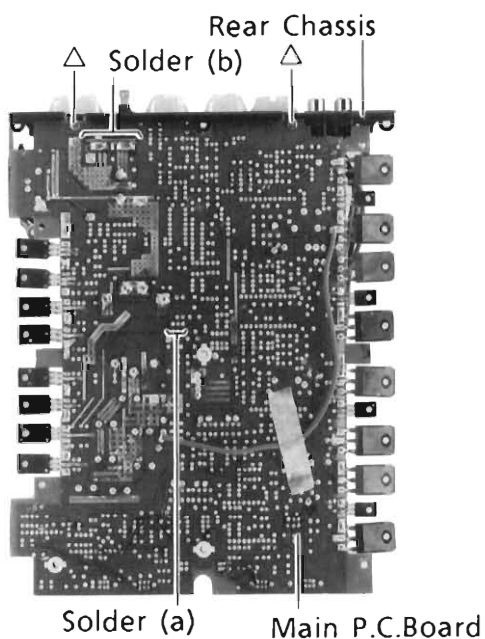

Figure 3
- (3) Remove the solder(a) as shown in Figure 3. The LED P.C.Board can be removed.
- (4) After removal of Fuse, remove five screws marked "△" and ten hooks(B) as shown in Figures 3 and 4. The Rear Chassis can be removed.
- (5) After removal of Rear Chassis, remove the solder(b) as shown in Figure 3. The Power P.C.Board Can be removed.
- (6) After the above procedures are completed, Main P.C.Board can be removed.